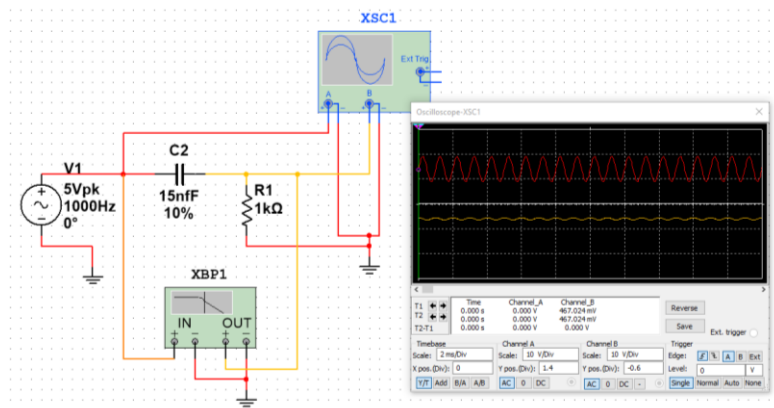

Figure 2-2: High Pass Filter in Multisim (5V Pk = 10V P-P)
- Output of RC filter shown in yellow trace (Figure 2-2).
Notice I have redesigned the circuit by swapping the positions of the resistor and capacitor. Now, the input signal is connected to the capacitor. Since the reactance of the capacitor at low frequencies is very high, it filters out those low signals. In Figure 2-2, the input signal is 1000Hz. Here the output is opposite to that of the low pass filter. Notice how the output signal (yellow) in Figure 2-2 is extremely small. This is because it is resisting the low frequencies in the signal. Again, just the reverse of the low pass filter design. Swapping the components is all that is needed to make a high or low pass filter.